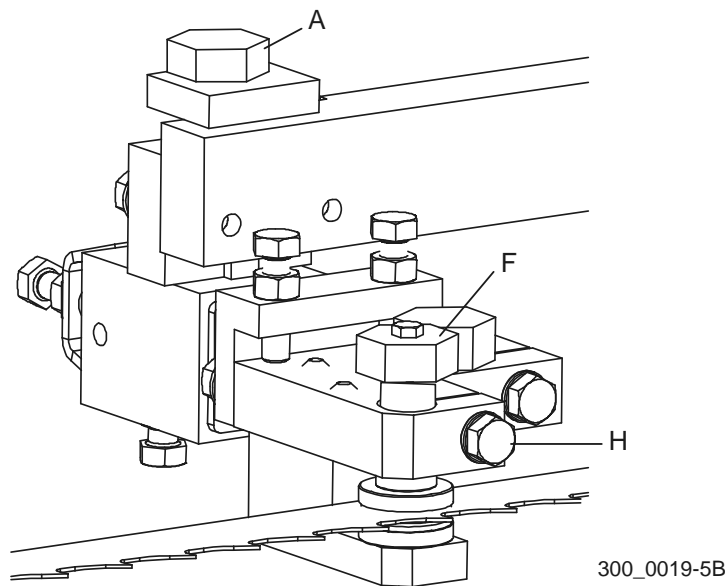

FIG. 5-32
See Figure 5-32. Use bolt (A) to adjust each blade guide assembly down, then back up so there is a slight gap between the bottom guide disks and the blade. Loosen clamp bolt (H) and turn bolt (F) clockwise to adjust the top disk down until the blade is firmly clamped between the guide disks.